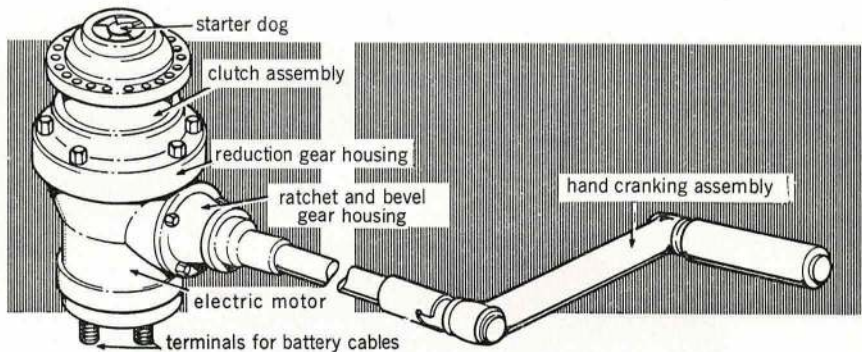

Fig 1.9.1 Hand turning through starter mechanism
4. The minimum requirement that must be met in design is that the gear ratio between the handle and the engine crankshaft must be low enough—about 18 to 1—to allow one or two men to turn the engine over and, at the same time, impart the minimum speed to the engine crankshaft at which the carburettor and magneto become effective for a start to take place. An example of hand turning through the starter mechanism is illustrated at Fig 1.9.1.